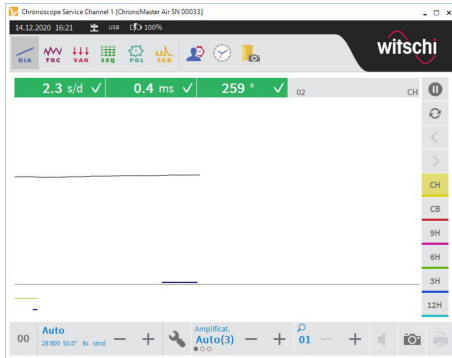

Fig. 18: The measuring process starts automatically
- The measuring process starts automatically (Fig. 18).